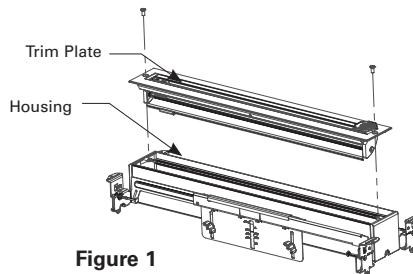
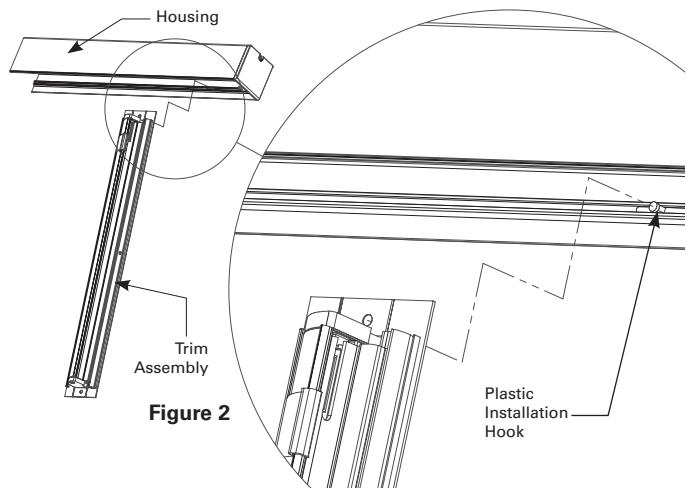

Figure 1
Figure 2
3. Remove the screws securing the trim plate to the housing (See Figure 1). Place the trim assembly and screws aside and save them for later installation. It is not necessary to disconnect the wire harness connecting the charger driver circuit board to the LED board. Instead, the trim plate can be hung from the sliding plastic installation hook (see figure 2).
- Remove the screws securing the trim plate to the housing (See Figure 1). Place the trim assembly and screws aside and save them for later installation. It is not necessary to disconnect the wire harness connecting the charger driver circuit board to the LED board. Instead, the trim plate can be hung from the sliding plastic installation hook (See Figure 2).